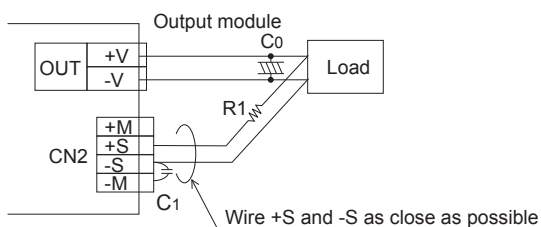

Fig. 3.2 When the remote sensing function is used
■ Wiring method with remote sensing is shown in Fig.3.2.
- ① Be sure connections are made properly. If the load wire is not connected correctly, a load current may flow through the sensing wire, which could damage circuitry inside the power supply.
- ② Wire of an appropriate type and gauge should be used to connect the power supply to the load. Line drop should be less than 0.3V.
- ③ When using the remote sensing function, oscillation in the power supply output voltage, or significant variations in output voltages can be generated by wiring or load impedance.